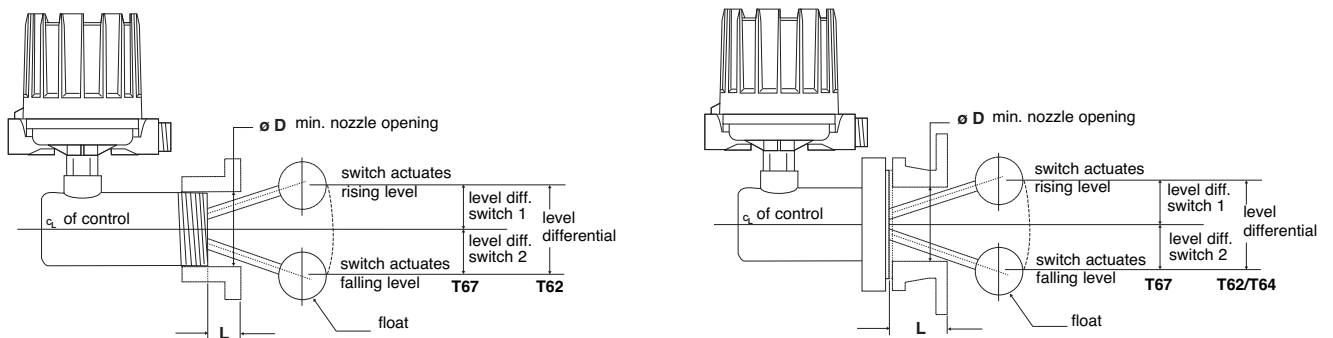

Figure 6
- ① All models are factory set at minimum differential unless otherwise specified.
- ② To maintain maximum differential, nozzle length "L" (**figure 6**) must not exceed: 64 mm (2.50") model T62 threaded; or 89 mm (3.50") model T62 flanged.
- ③ Dimensions given are approximate and will vary slightly with each unit.
- ④ Consult factory for differentials of models not shown.